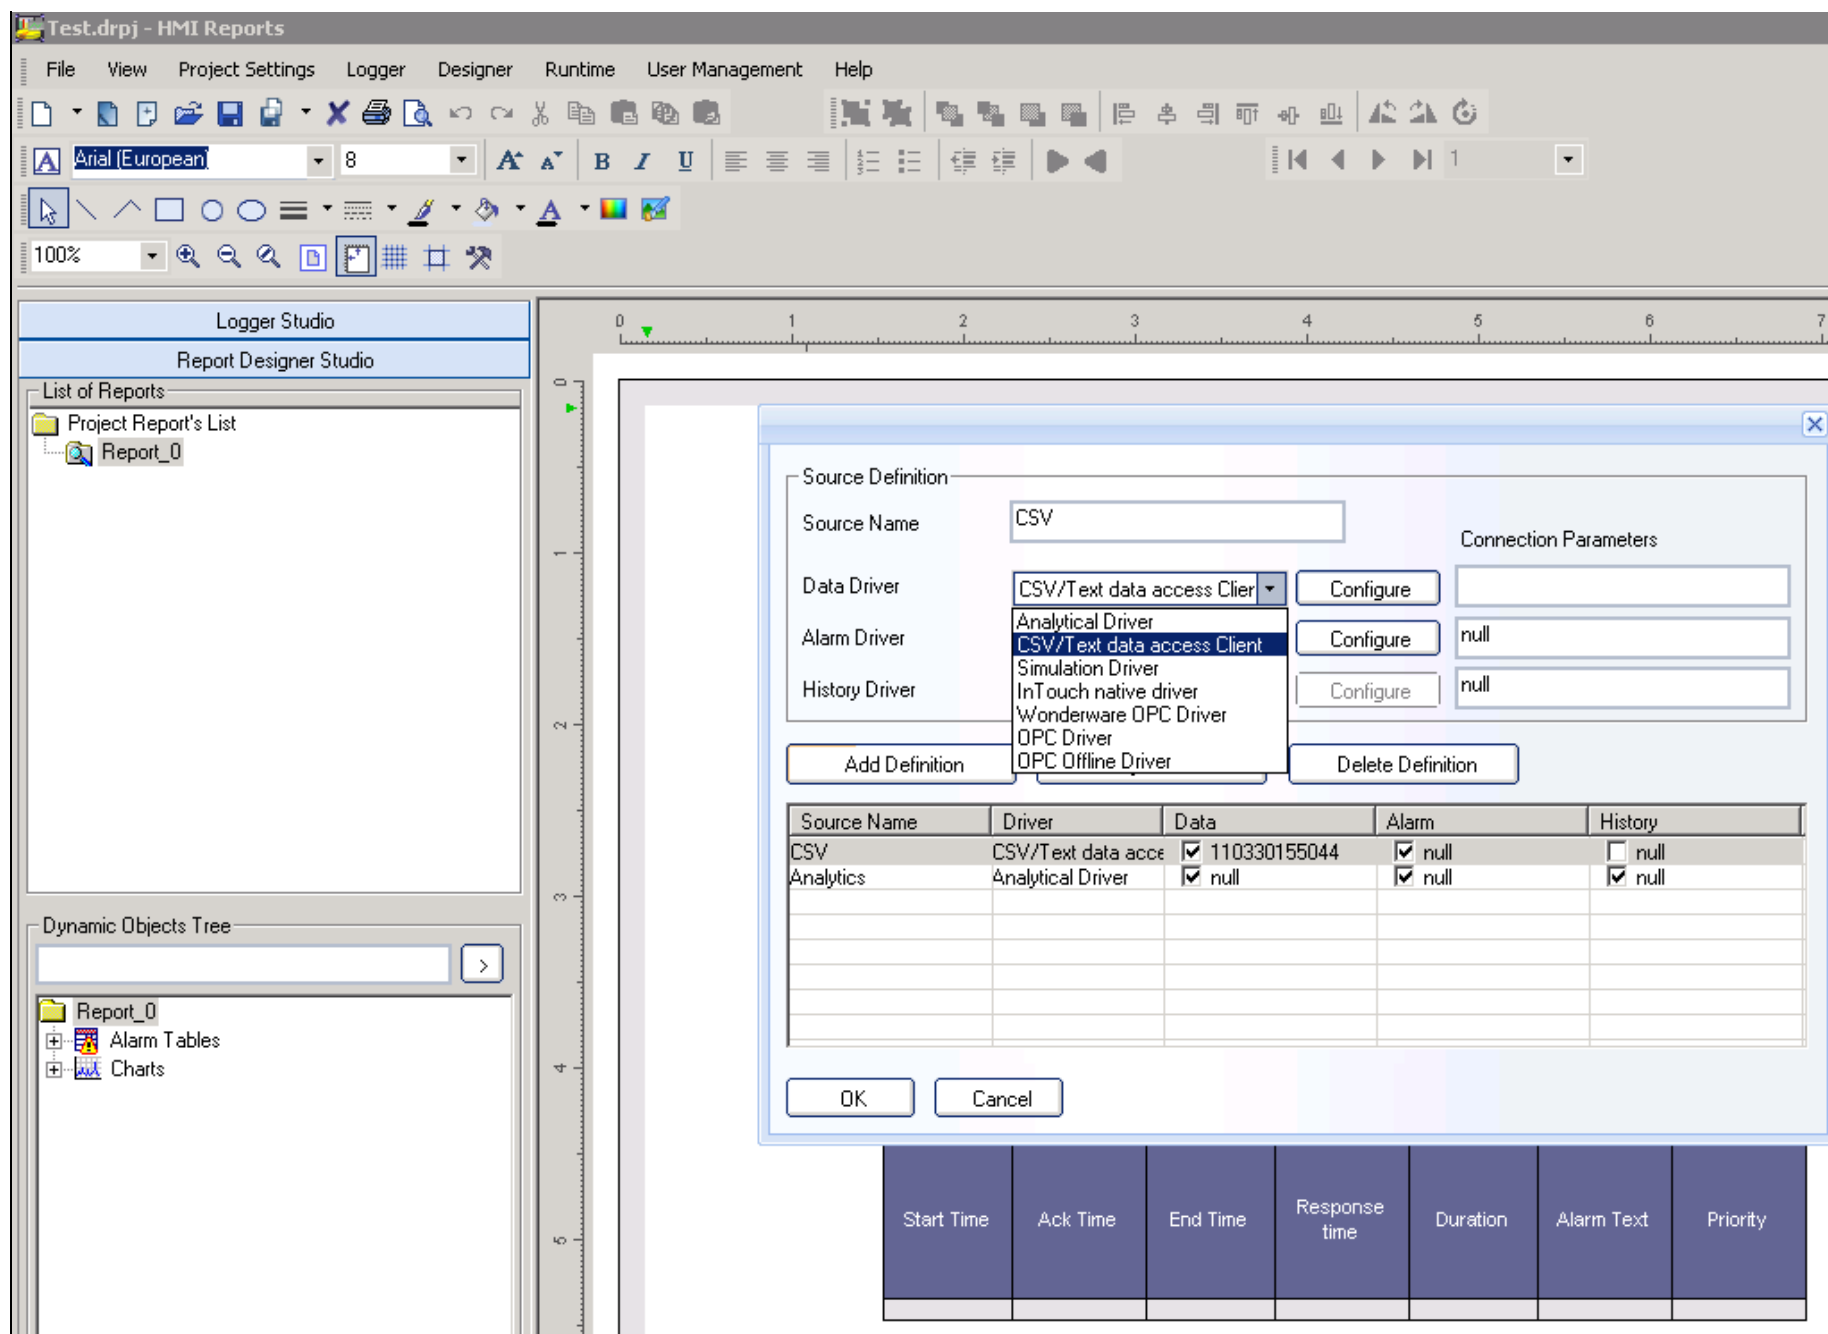

FIGURE 1: CSV/TEXT DRIVER SOURCE DEFINITION
2. Define your **Source Name** then select **CSV/Text data access Client** from the **Data Driver** list (Figure 1 below).